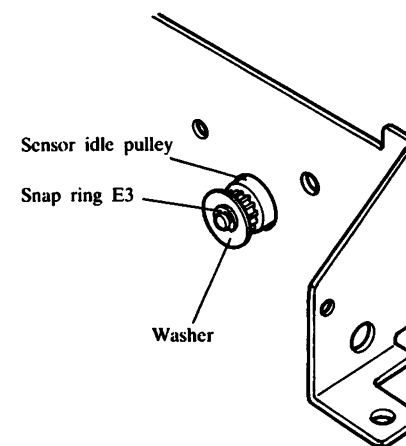

Fig. 37
- (2) Put the Washer and the snap ring E3 on the shaft for the pulley from the front side. (Refer to Fig. 37)